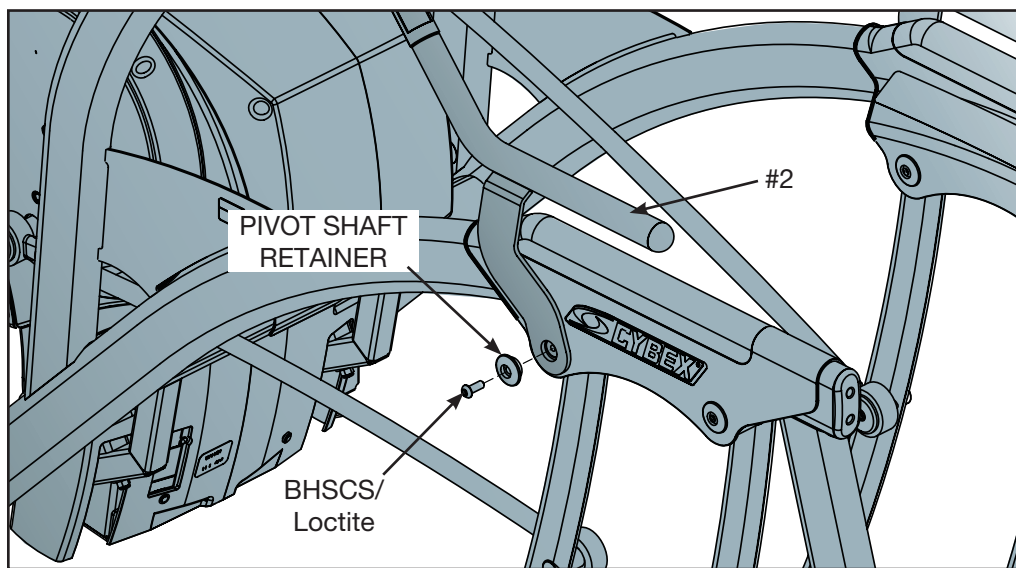

Figure 5
- E. Place the lower left console/handle assembly support (#2) in the correct position on the main frame assembly. See Figure 5.
- G. Reattach left pivot shaft retainer (removed in step 5B) using the BHSCS/loctite. See Figure 5.
- I. Securely fasten the BHSCS attached in steps 6D and 6G using the 7/32" Allen wrench (#14) provided. **NOTE:** Torque the BHSCS in Figure 5 to 150 inch pounds minimum. Ensure the mounting plate is tight against bearing with no side play allowed.